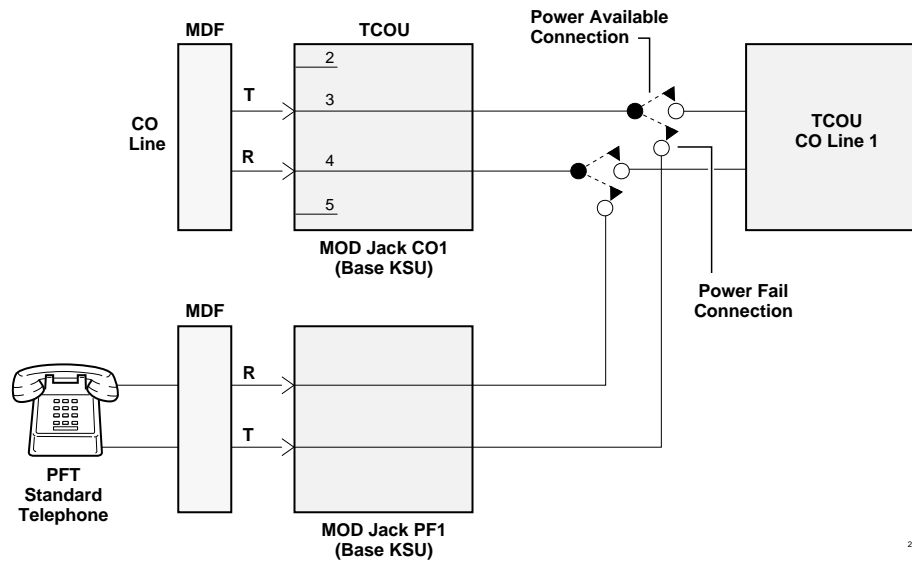

Figure 3-13 Base KSU Power Failure Transfer (PFT) Circuit Diagram
- Connect a standard telephone to the PF1 connector in the Base KSU (see Figure 3-13).